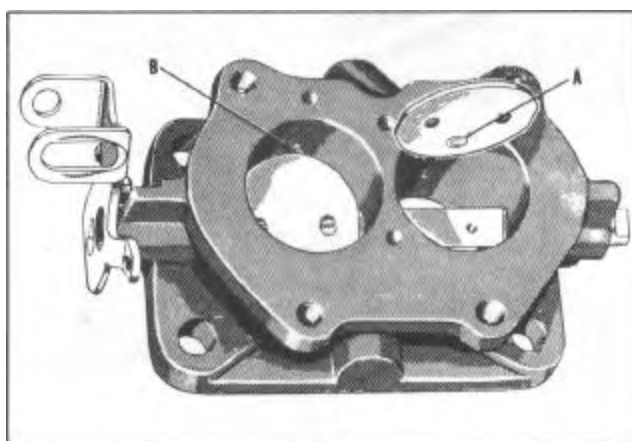

FIGURE 66
2. Install the throttle valves. Small "c" at (A), Figure 66, in circle should be toward idle port at (B) (when viewing casting from manifold side). Center throttle valves by tapping lightly and holding in place with fingers before tightening screws. Always use new screws. Peen threaded end of screws to keep screws from loosening.